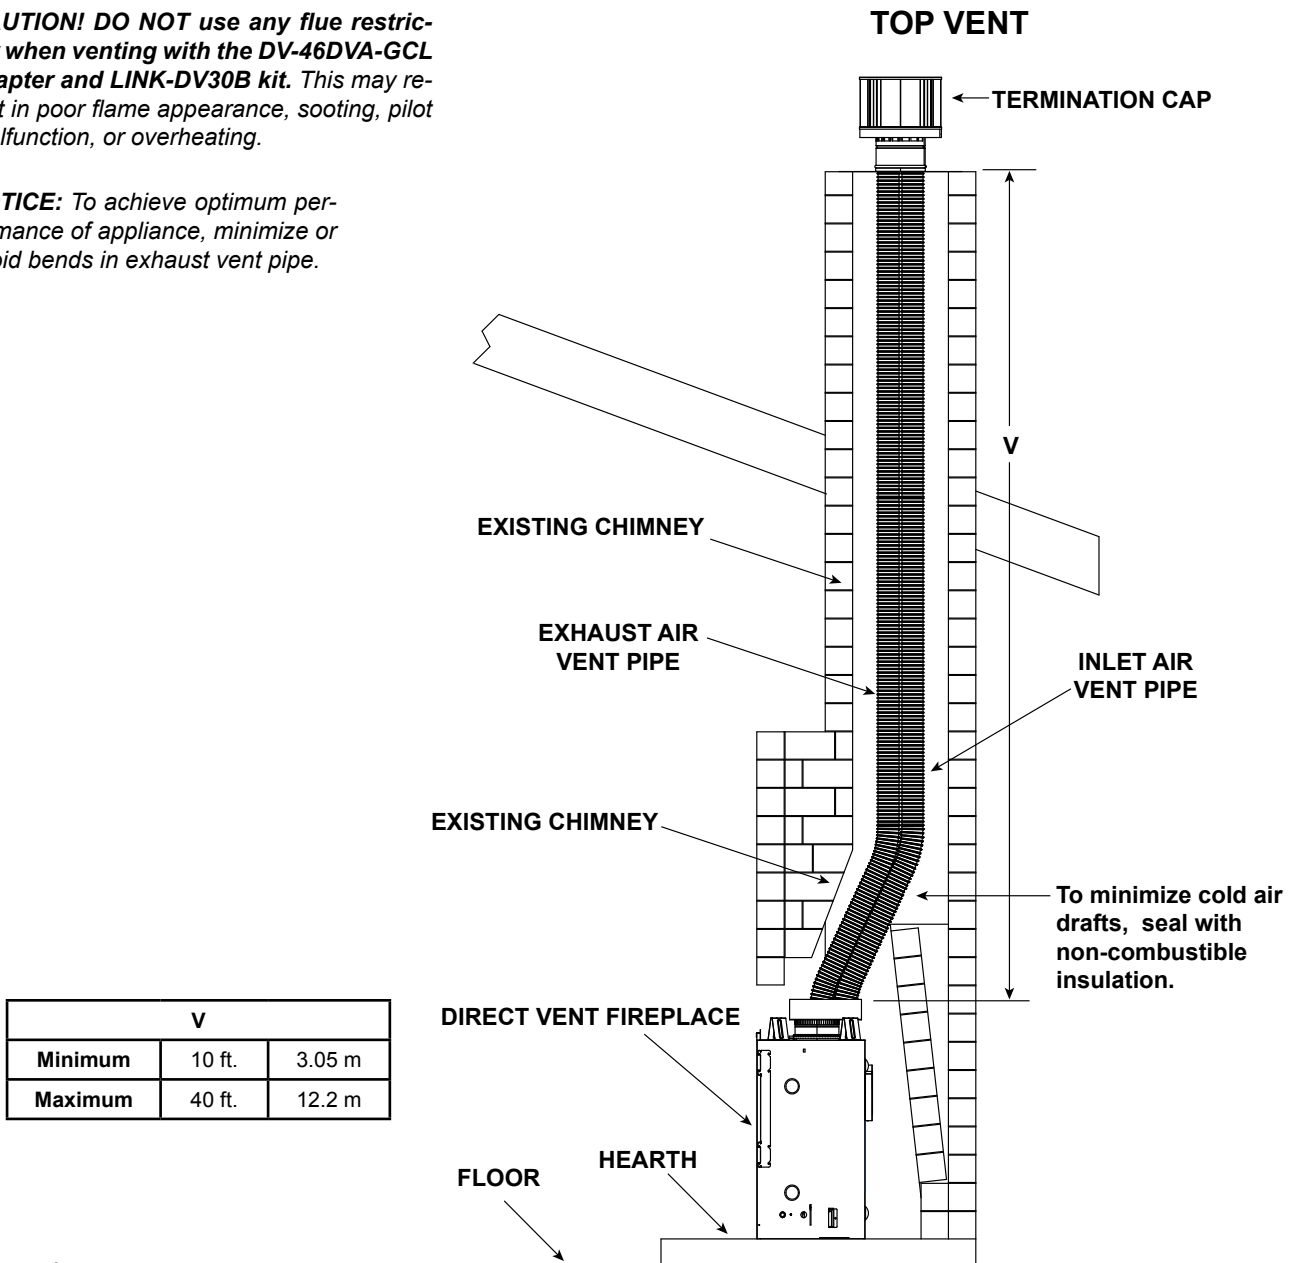

Figure 7.15
- Remove top seal cap and insulation if equipped. See Section 14, "Appliance Setup." Attach the DV-46DVA-GCL adapter to the appliance starting collar with 3-1/2 in. self-tapping screws. See Figure 7.15.